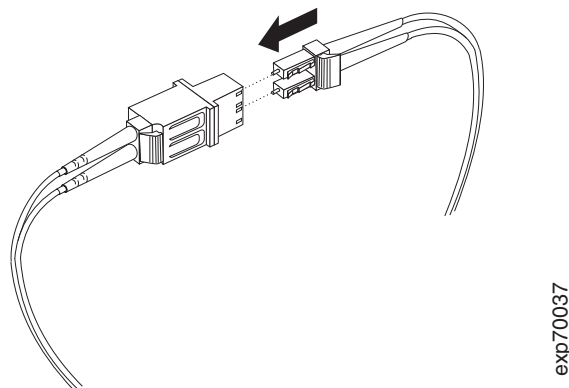

Figure 32. Connecting an LC-LC cable into the LC-SC cable adapter
4. Carefully insert the other end of the LC-LC cable into the LC connector end of the LC-SC cable adapter as shown in Figure 32. Push in the connector until it clicks into place.